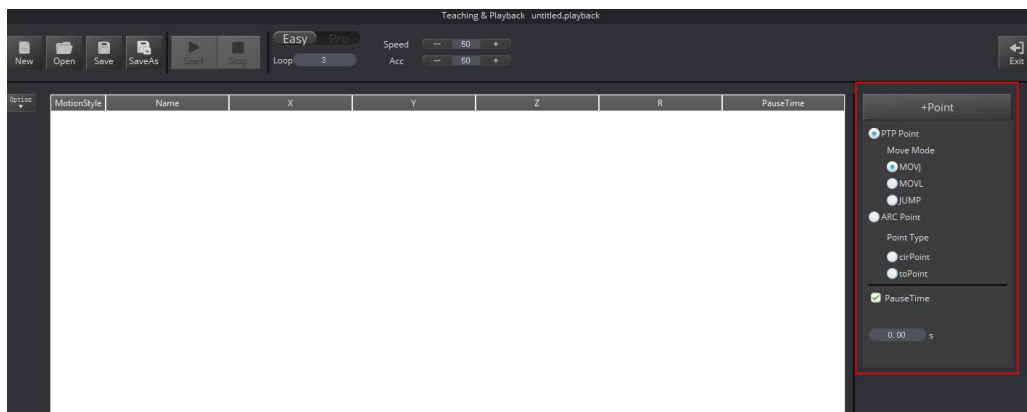

Figure 5.14 Set the save points, motion modes and pause time
- In both **Easy** and **Pro** modes, you can save points, set the motion mode and the pause time for a save point, as shown in Figure 5.14.